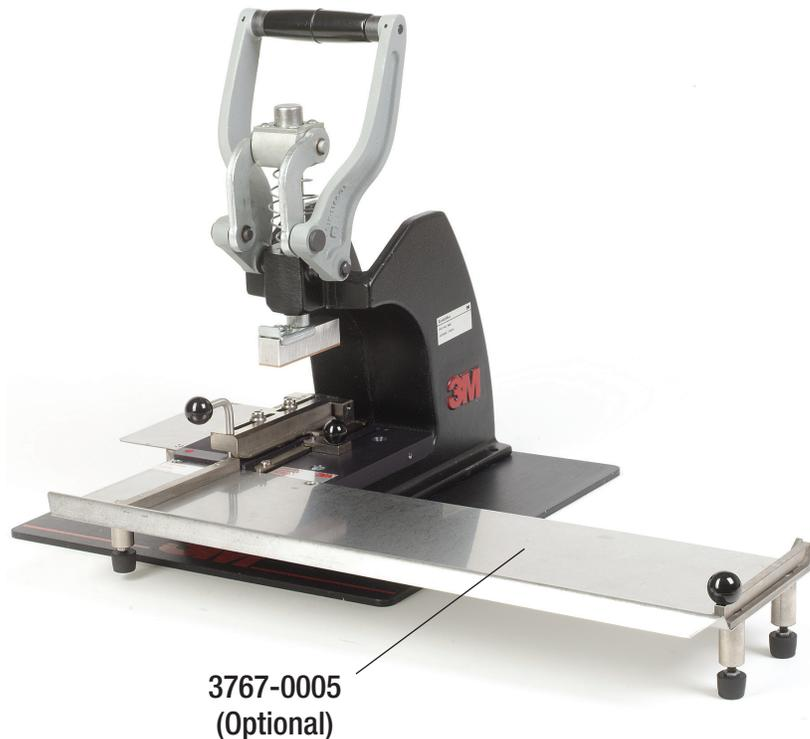

Figure 1
- 3.4 Adjust the cable stop as required (see Figure 1). For daisy chain assemblies: left position ⑧. For end-to-end assemblies: right position ⑨.